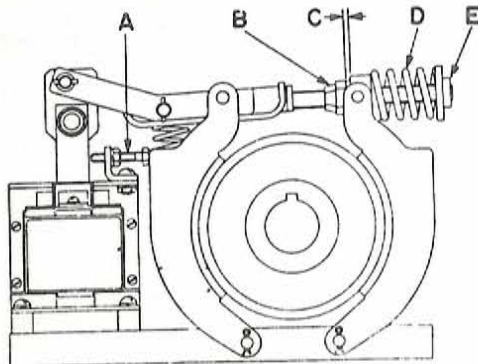

Fig. 1
**INSTRUCTIONS (See Figure 1)**
**2. Adjustment** — a. Compress the torque spring "D" until the desired torque is obtained. The approximate compressed length of this spring, to obtain rated torque, is given in the table below and on some brakes this length is given on a small plate mounted on the pivot block, item 19. It is an approximate dimension and further adjustment may be necessary.